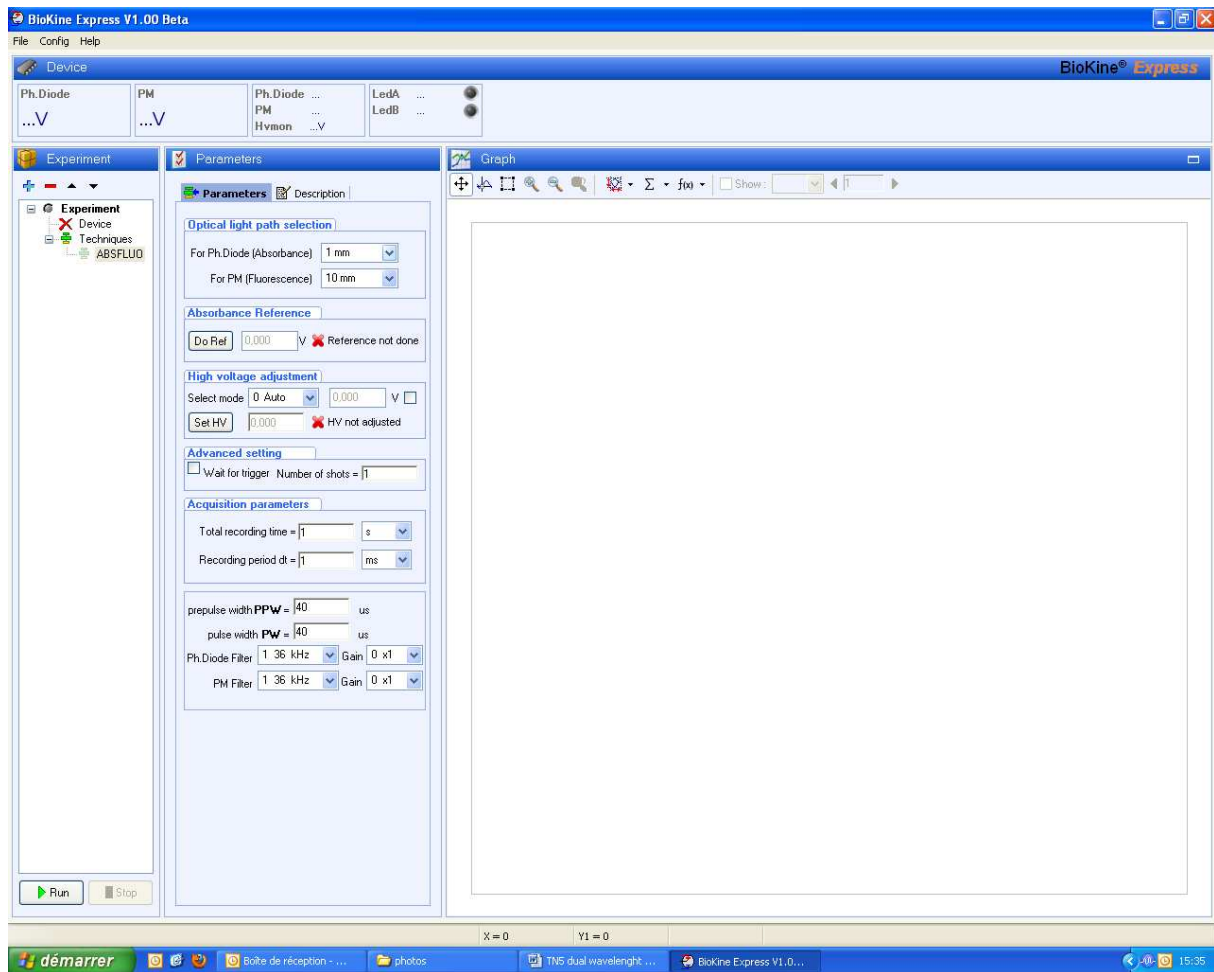

Figure 6: software window in dual absorbance mode
- Click on technique and select "DABS" for dual absorbance measurements. A new window should arise ((figure 6)